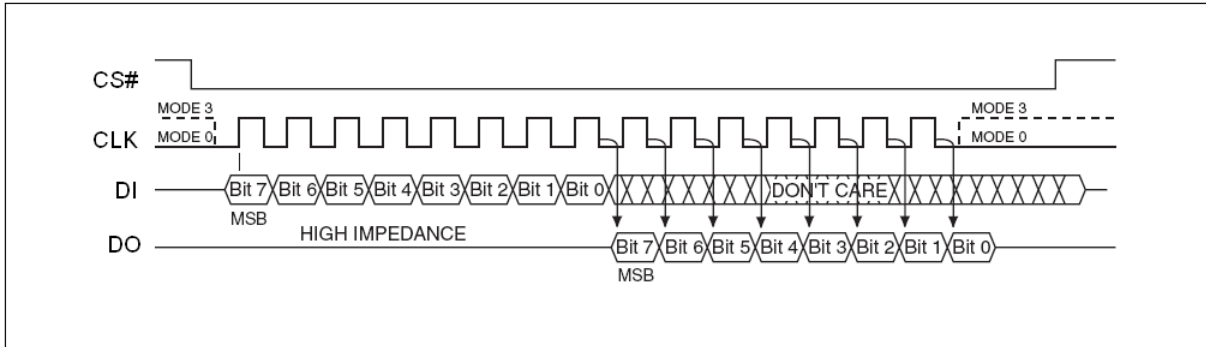

Figure 3. SPI Modes
The EN25S80B (2S) is accessed through an SPI compatible bus consisting of four signals: Serial Clock (CLK), Chip Select (CS#), Serial Data Input (DI) and Serial Data Output (DO). Both SPI bus operation Modes 0 (0,0) and 3 (1,1) are supported. The primary difference between Mode 0 and Mode 3, as shown in Figure 3, concerns the normal state of the CLK signal when the SPI bus master is in standby and data is not being transferred to the Serial Flash. For Mode 0 the CLK signal is normally low. For Mode 3 the CLK signal is normally high. In either case data input on the DI pin is sampled on the rising edge of the CLK. Data output on the DO pin is clocked out on the falling edge of CLK.